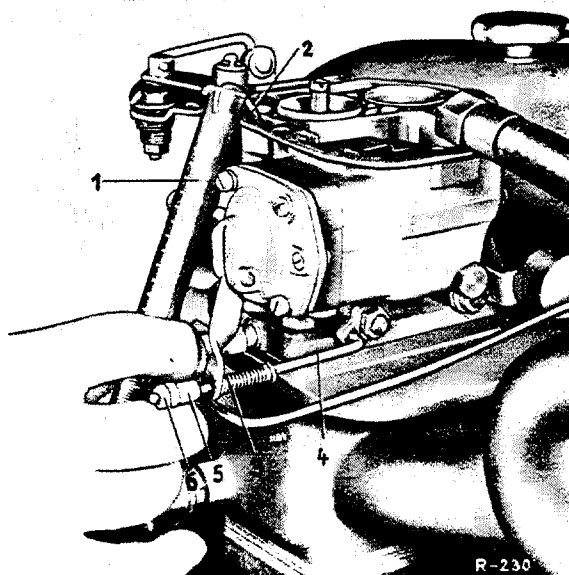

Fig. M 31 S/4
11. Check the injection amount by repeating the injection five times. Use a suitable graduated tube or Graduated Tube (Burette) 000 589 31 21 (see Fig. M 31 S/4).